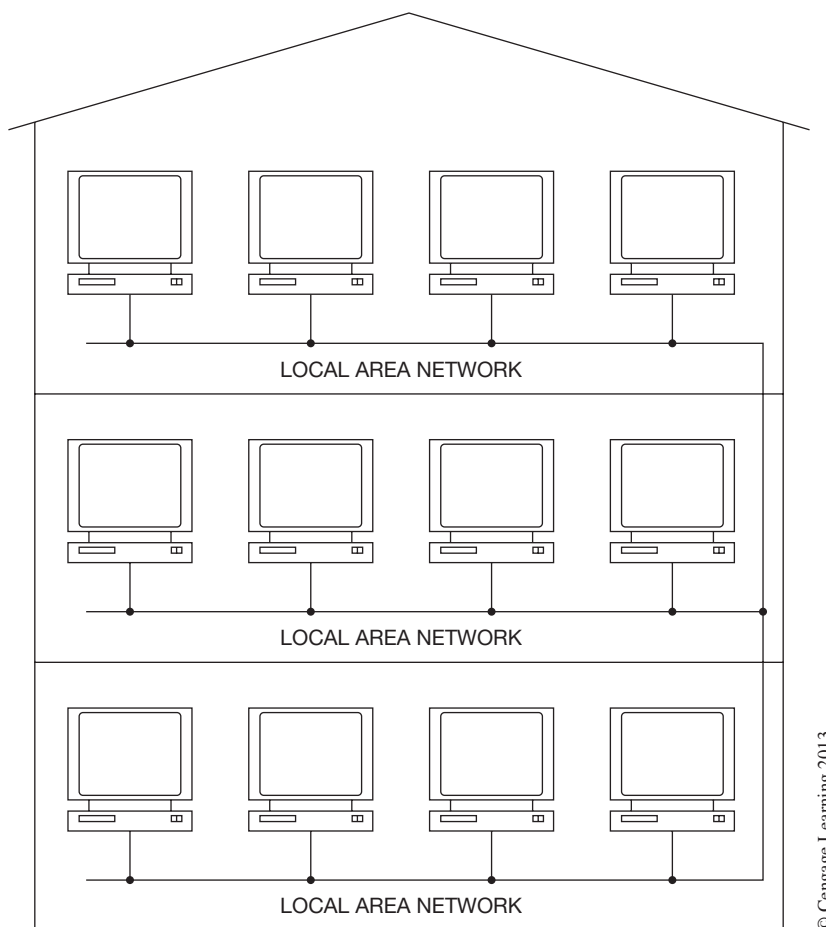

Figure 20–2 Local Area Network (LAN)
- **Radio Area Networks (RANs)** are data communications networks that use radio or microwave signals as the network media to communicate between devices. This category of network is typically found in supervisory control and data acquisition (SCADA) systems. You may find this type of network used by a city municipal water department, for example, to monitor and/or control the city's water reservoirs and pumping stations that may be located throughout the city (see Figure 20–3). This type of network can sometimes provide a cost savings over traditional methods like leasing phone lines from a local common carrier. In some cases in which no physical media are available or practical this may be the only option.